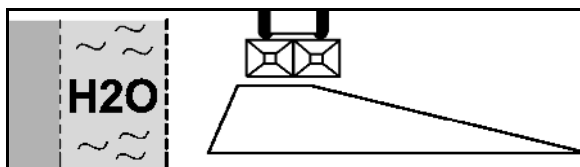

Fig. 48
2. Ditch spreading in accordance with fertiliser ordinance (Fig. 48):